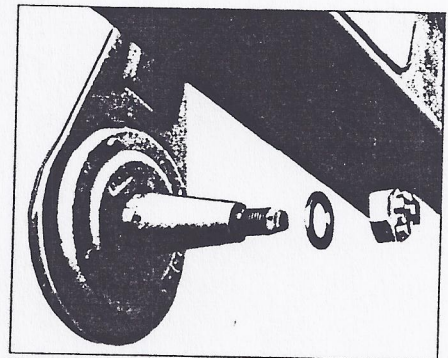

Figure 6
- b. Clean crankpins and install them dry in the crankpin holes. Be sure that the thrust pin of the crankpin is engaged in the groove provided in the crank. See illustration in Figure 6.